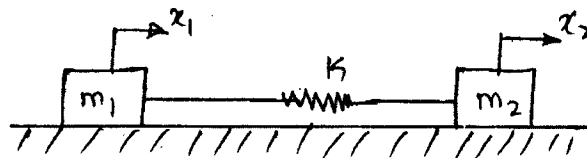

Fig. Q6 (b)
- b. Solve the problem shown in Fig. Q6 (b). $m_1 = 10 \text{ kg}$, $m_2 = 15 \text{ kg}$ and $K = 320 \text{ N/m}$. (14 Marks)